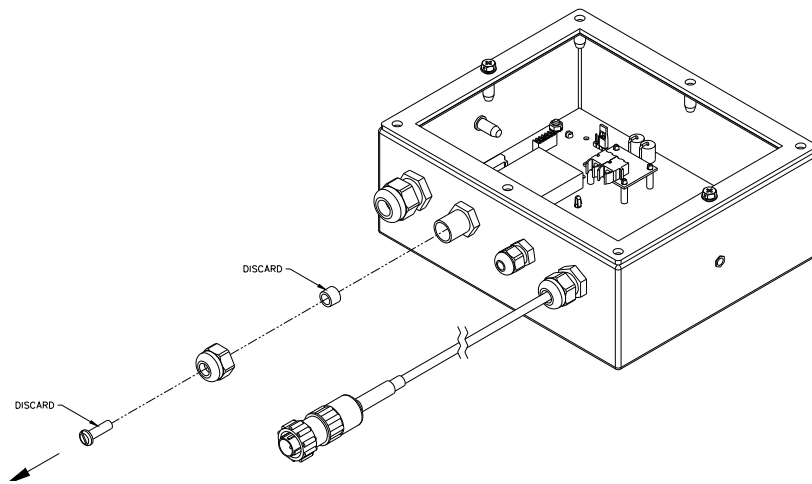

Figure 15: Fiber-Optic Cable Installation and Termination
4. Reinstall the strain relief cap on the strain relief, but do not tighten. Refer to Figure 15.